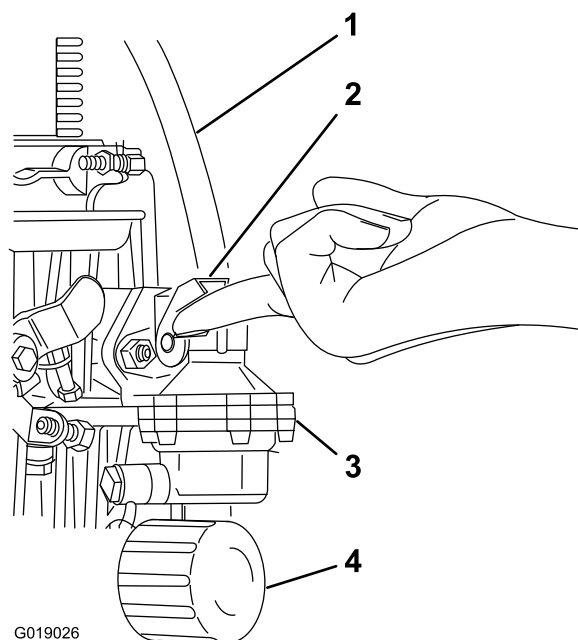

Figure 24
5. At the fuel pump, operate the priming lever until fuel is heard flowing back into the fuel tank through the fuel return line. (Figure 24).